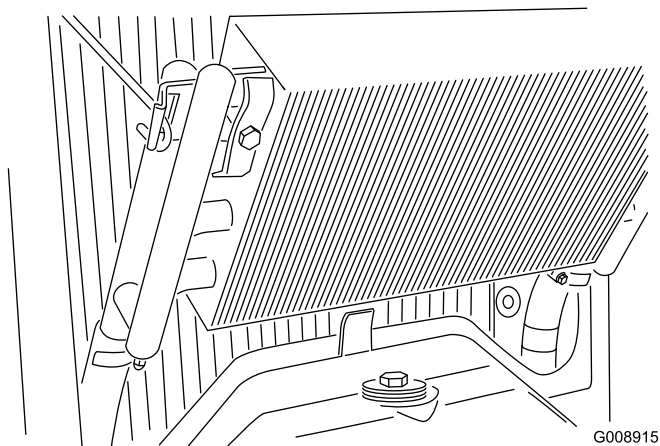

Figure 70
4. Unlatch the oil cooler and pivot it rearward (Figure 70).